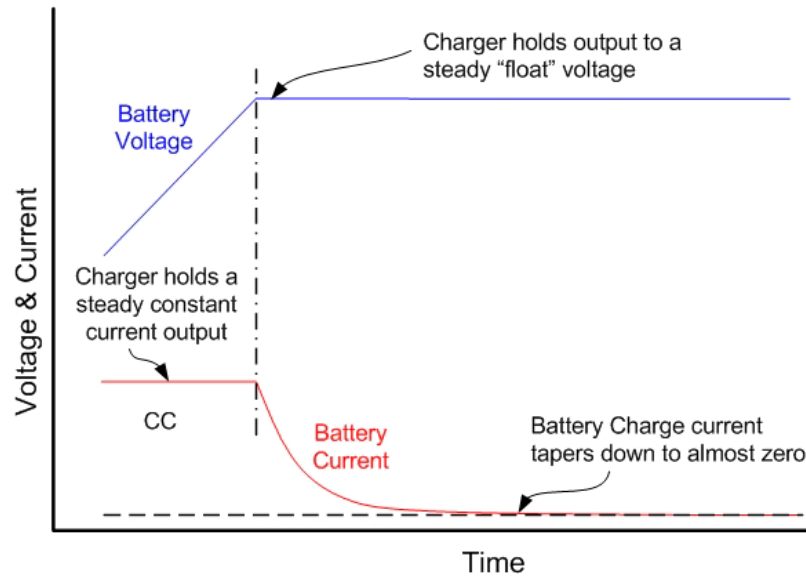

Figure 9 Battery Voltage and Current During Normal Charge
For ALM 12V35 batteries operating under normal conditions during a charge, a charger applies Constant Current (CC) until the terminal voltage reaches its End of Charge (EOC) voltage (maximum), as shown Figure 9 on page 37. This process is followed by a float voltage, where the charge current decays to near zero. As the battery approaches 100% SOC, the balancing circuitry performs cell balancing. This process charges the ALM 12V35 battery to 100% SOC.